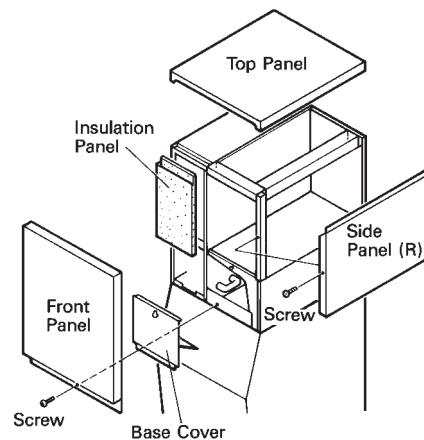

Fig. 1
B. How to Remove Panels See Fig. 1
- Side Panel (R): Remove the screw. Slide forward slightly, and lift off.